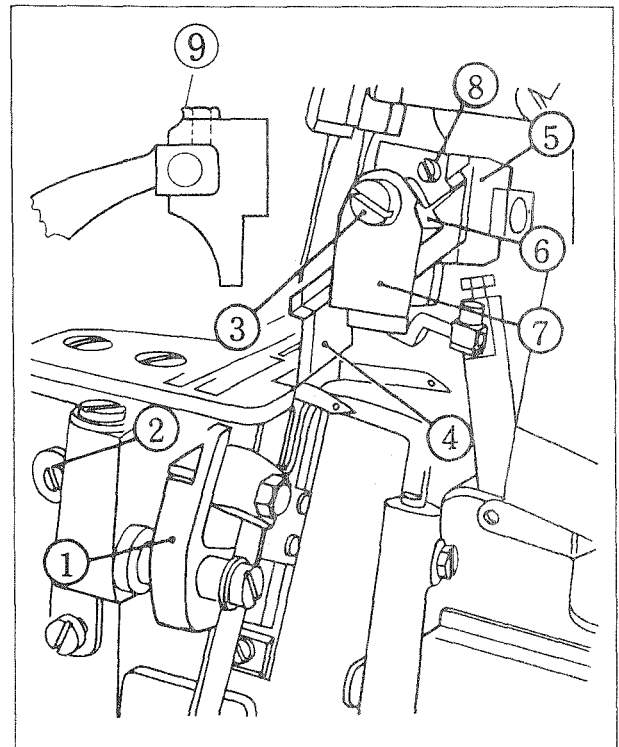

Fig. 15-1
- b) Cutting length adjustment (Fig. 15-1)
The upper knife in the lowest position overlaps the lower knife blade by 0.5 to 1.0 mm (1/64" to 3/64"). Replace the upper knife or adjust its height after loosening the upper knife presser plate ⑧ (Fig. 15-1).